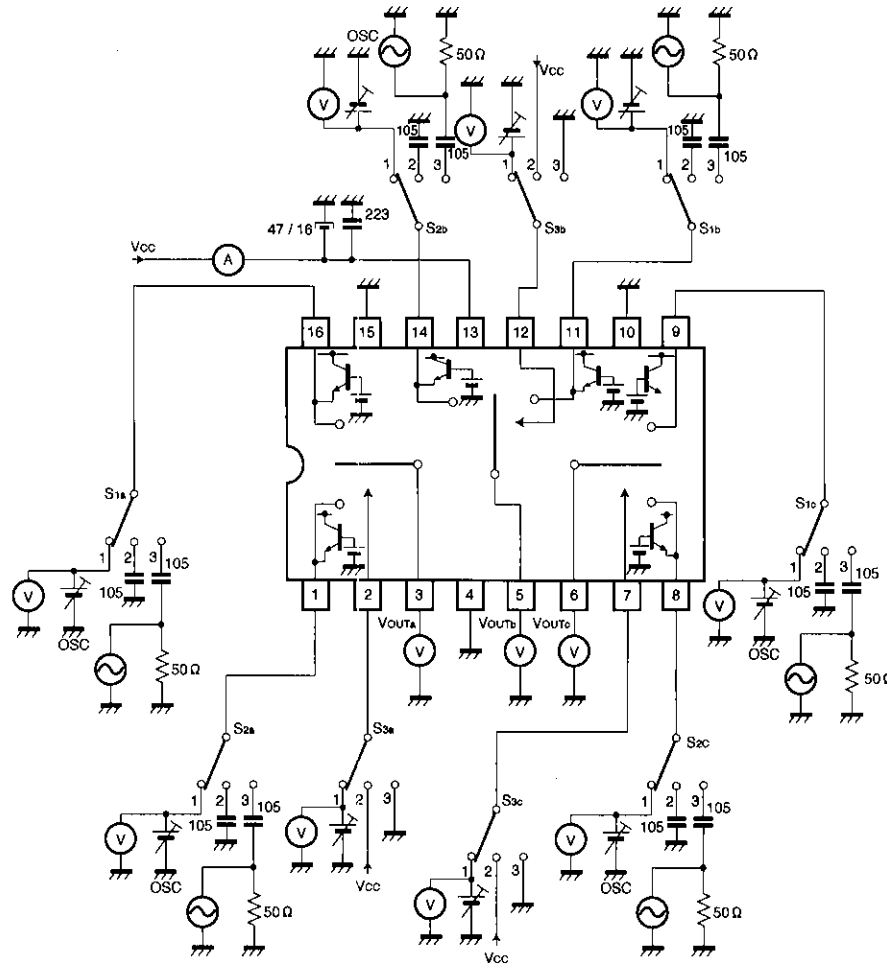

Fig.1
* Refer to the measurement circuit given in Fig. 1.